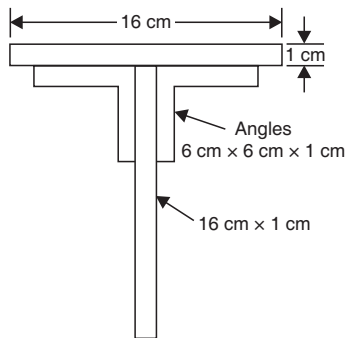

Fig. 5.21
**Example 5.3.** A T-beam is made up of two plates and two angles as shown in Fig. 5.21. Determine the moment of inertia of T-section about an axis passing through the centroid of the section and parallel to the top plate.